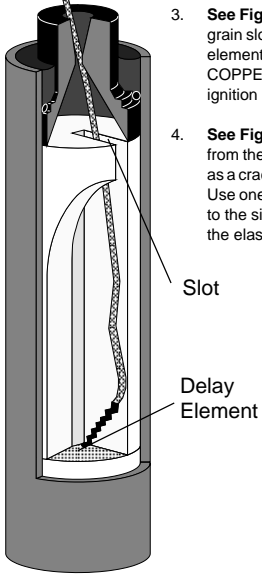

Figure 1
3. **See Fig.1** Once the COPPERHEAD™ has entered the propellant grain slot, continue inserting it until contact is made with the delay element at the forward end of the motor. Failure to insert a COPPERHEAD™ igniter as described may result in low-thrust ignition of the motor.